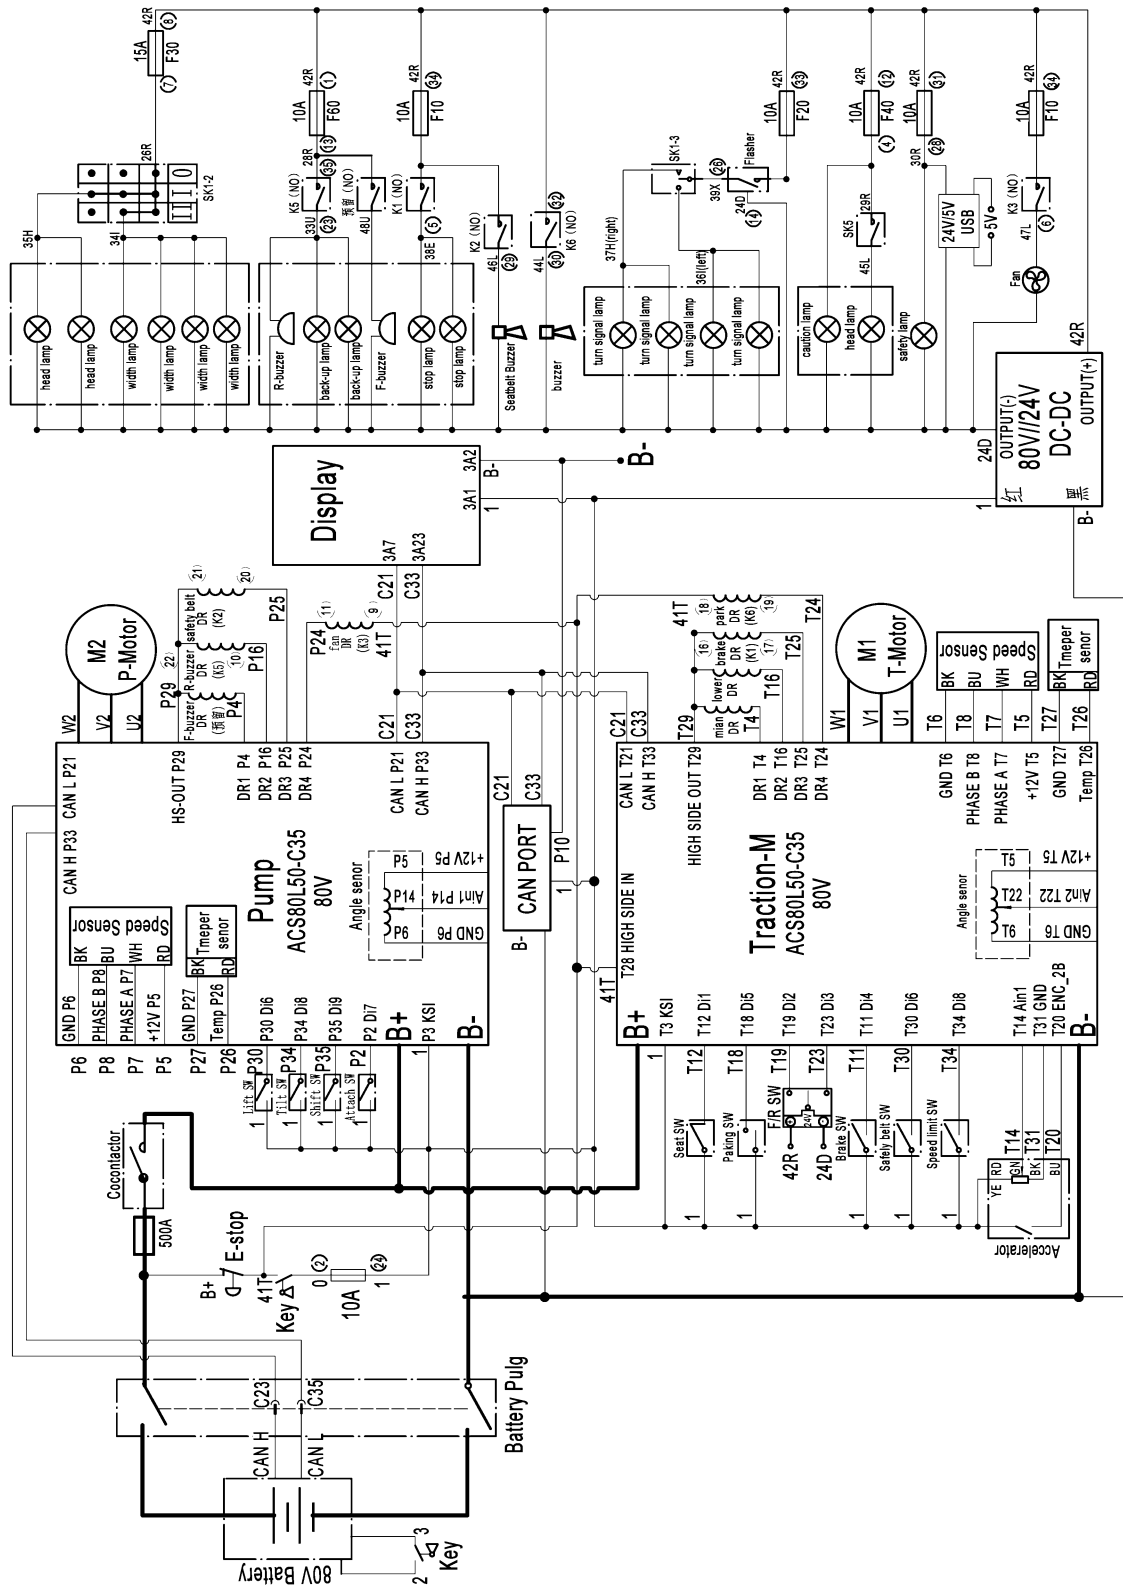

Figure2-12 Electrical schematic diagram—Inmotion
- (1) Shorten the putter;
- (2) Adjust the pedal limit bolt, as shown in Figure 2-12. (b) Adjust the pedal height;
- (3) Adjust the length of the push rod until the front end of the push rod contacts the piston of the main pump, and then retreat 1-2 turns to ensure that the free travel of the pedal is between 10mm-20mm;
- (4) Lock the push rod nut and pedal limit bolt nut.
4.2.1 Electrical schematic diagram—Inmotion(Figure2-12)